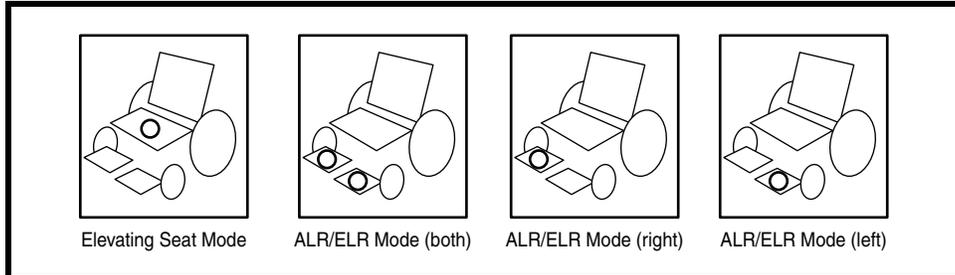
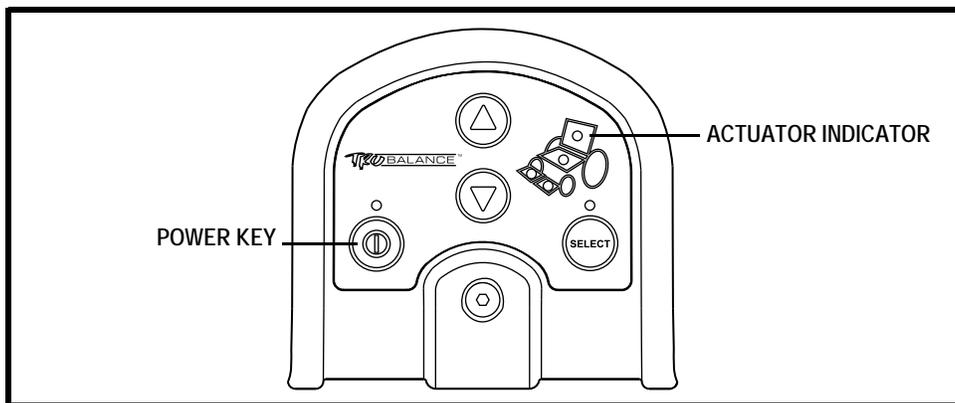

Figure 14. Actuator Modes
Figure 15. Attendant Control Module Functions
3. Push the joystick to the right to cycle through the available actuators until the desired light is illuminated on the actuator indicator. **See figure 14.**
Your Synergy Seat may be equipped with an Attendant Control Module (see **figure 15**). The actuators can be adjusted either by the user through the controller or the toggle, or by an attendant through the Attendant Control Module. Any action made through the Attendant Control Module will override toggle actions made by the user. To adjust any of the actuators, press “Select” to cycle until the actuator to be adjusted is illuminated on the actuator indicator (see **figure 14**), then press the up arrow to increase the lift or tilt or the down arrow to decrease the lift or tilt.